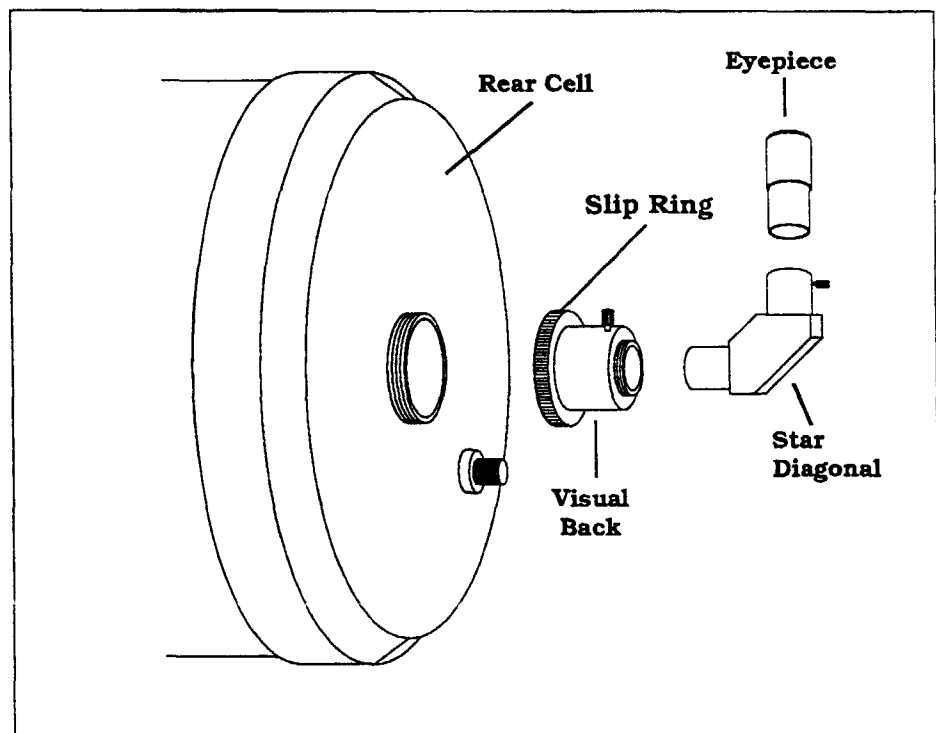

Figure 7-2
2. Place the knurled slip ring on the visual back over the threads on the rear cell (see figure 7-2).
2. Slide the chrome portion of the star diagonal into the visual back (see figure 7-2).
2. Slide the chrome portion of the eyepiece into the star diagonal (see figure 7-2).